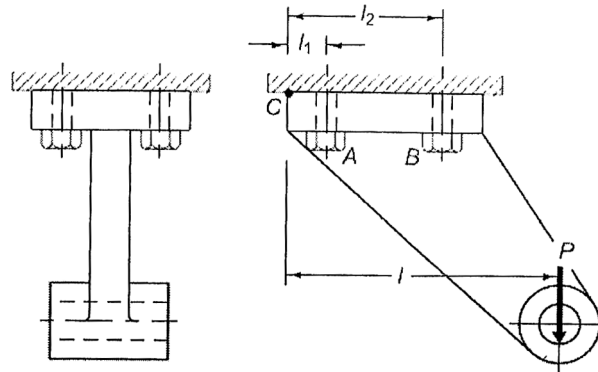

Fig. Q4a
4. (a) A cast iron bracket is fixed to the steel structure is shown in Fig. Q4a. It is supposed to support a maximum load (P) of 25 kN. There are two bolts (M36 x 2) each at A and at B and the same are made of plain carbon steel (30C8). The distances are as follows, $l_1 = 50$ mm, $l_2 = 200$ mm, $l = 400$ mm. Determine the factor of safety (FOS) of the system considering the failure of the bolts. What is the % gain in FOS if the bolt material is changed to 55C8 ? [10]